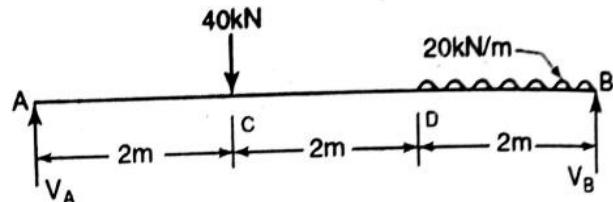

Fig.Q.3c.
c) Draw the shear force and bending moment diagram for the beam shown in Fig.Q.3c.